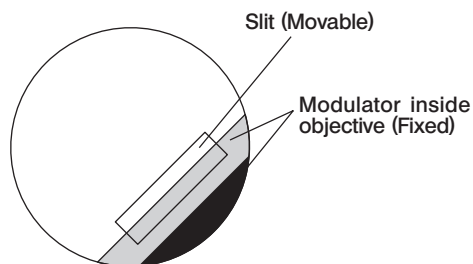
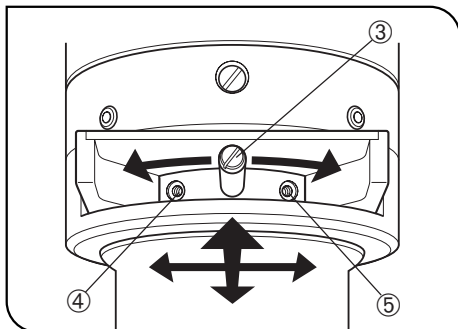

Fig. 5
Fig. 6
3. Remove an eyepiece from the eyepiece sleeve and look into the sleeve. The modulator and slit are visible as shown in Fig. 5.
4. Move the slit adjustment knob ③ to the front, rear, left and right (Fig. 6) so that the slit is visible in the standard position shown in Fig. 5.